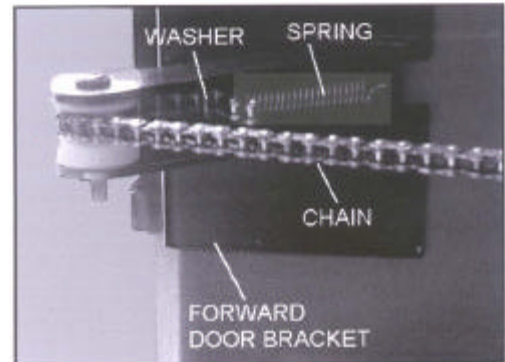

FIGURE 2-2: WASHER INSTALLATION ON CHAIN ASSEMBLY
- d. Refer to **Figure 2-2**. Once the chain has been routed around the forward door bracket roller, pull chain toward the sliding door and install washer over the chain.